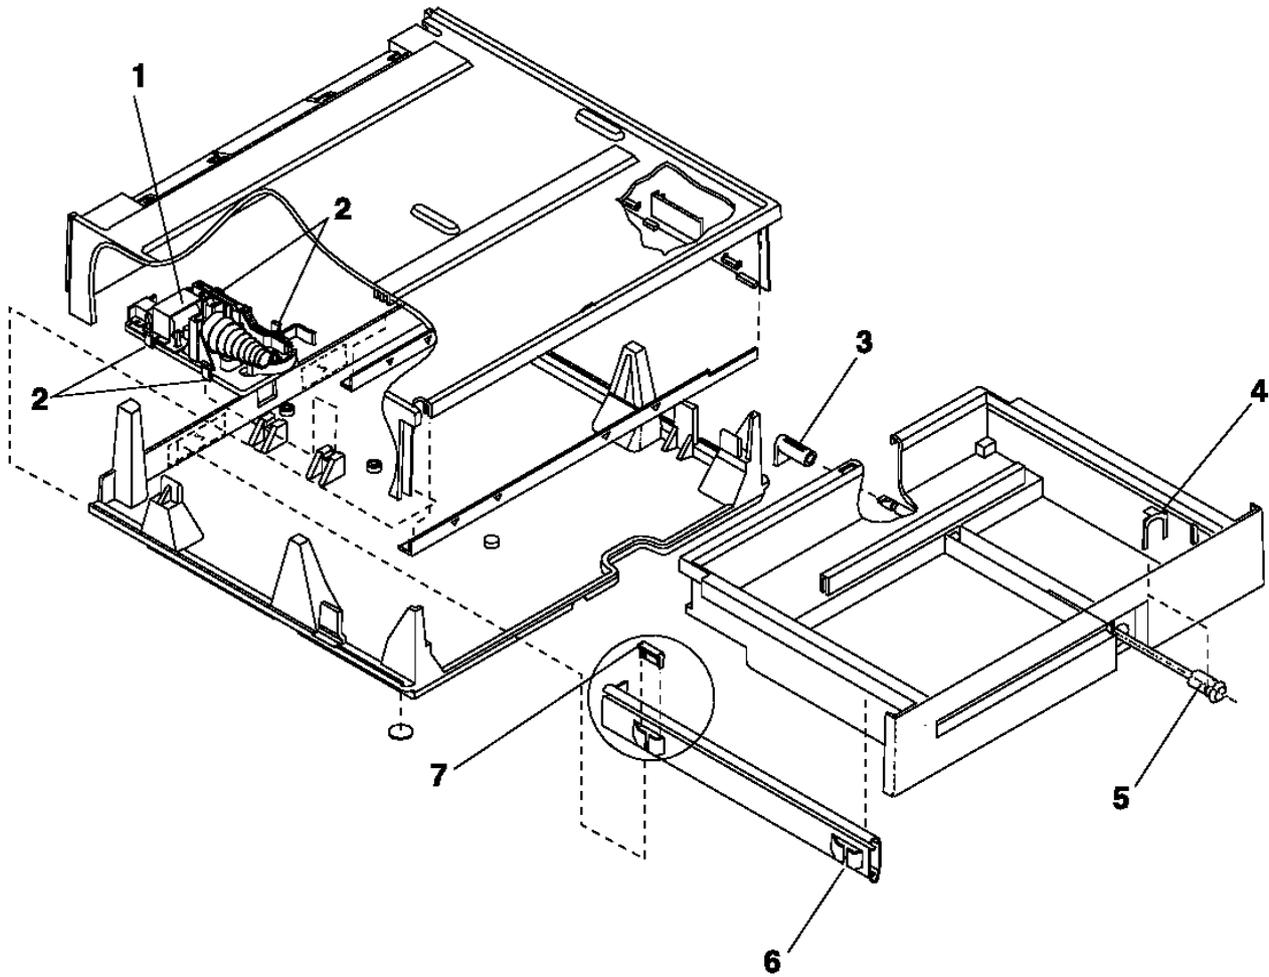

Figure 2-3. Cash Drawer Assembly
3. Pry the wedges (7) up and remove them. The wedges are at the front and rear of the slide assembly. See Figure 2-3 in topic 2.2.6.
4. Lift the slide assembly (6) out of the frame.
6. Put the wedges (7) in the slots and press them down to lock them in place. The wedge slots are at the front and rear of the slide assembly.
3. Pry out on the latches (2) one at a time to free them. See Figure 2-3.
4. Lift the assembly (1) out of the base.
5. To exchange the latch and sensor assembly, position it in the base and press down until the latches (2) lock into place.